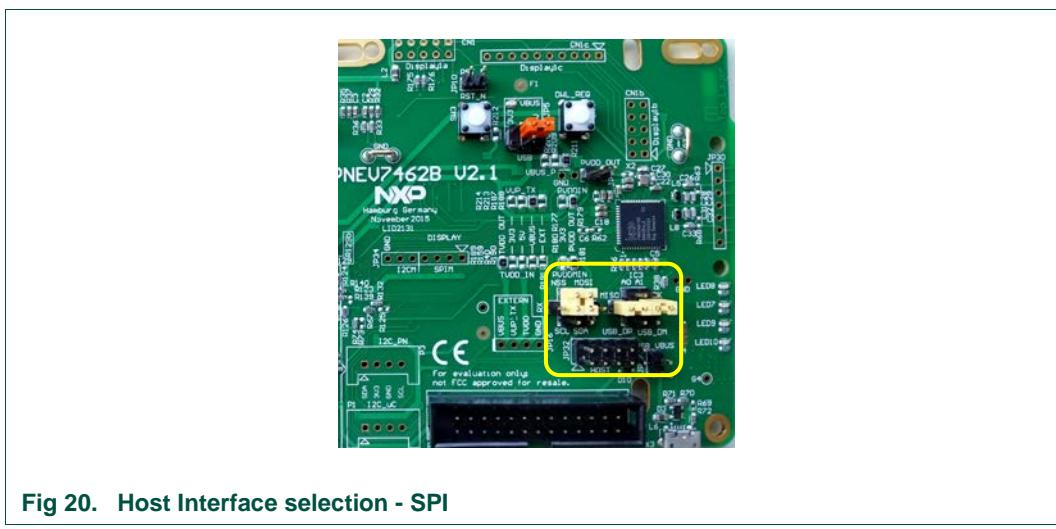

Fig 20. Host Interface selection - SPI
The yellow marked jumpers (Fig 20) needs to be set for using the SPI host interface of the chip. This will connect the SPI_MOSI of the PN7462AU to the I/O P0(18), SPI_MISO to the I/O P0(17), SCK to the I/O P0(15), and also the NSS of the PN7642AU to the I/O P0(16) of the LPCXpresso board.